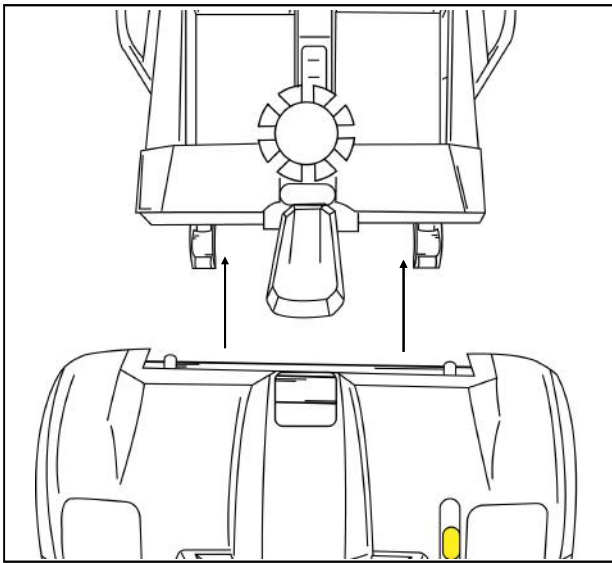

Figure 20. Drivetrain Alignment
1. Line up the frame and the drivetrain. See figure 20.